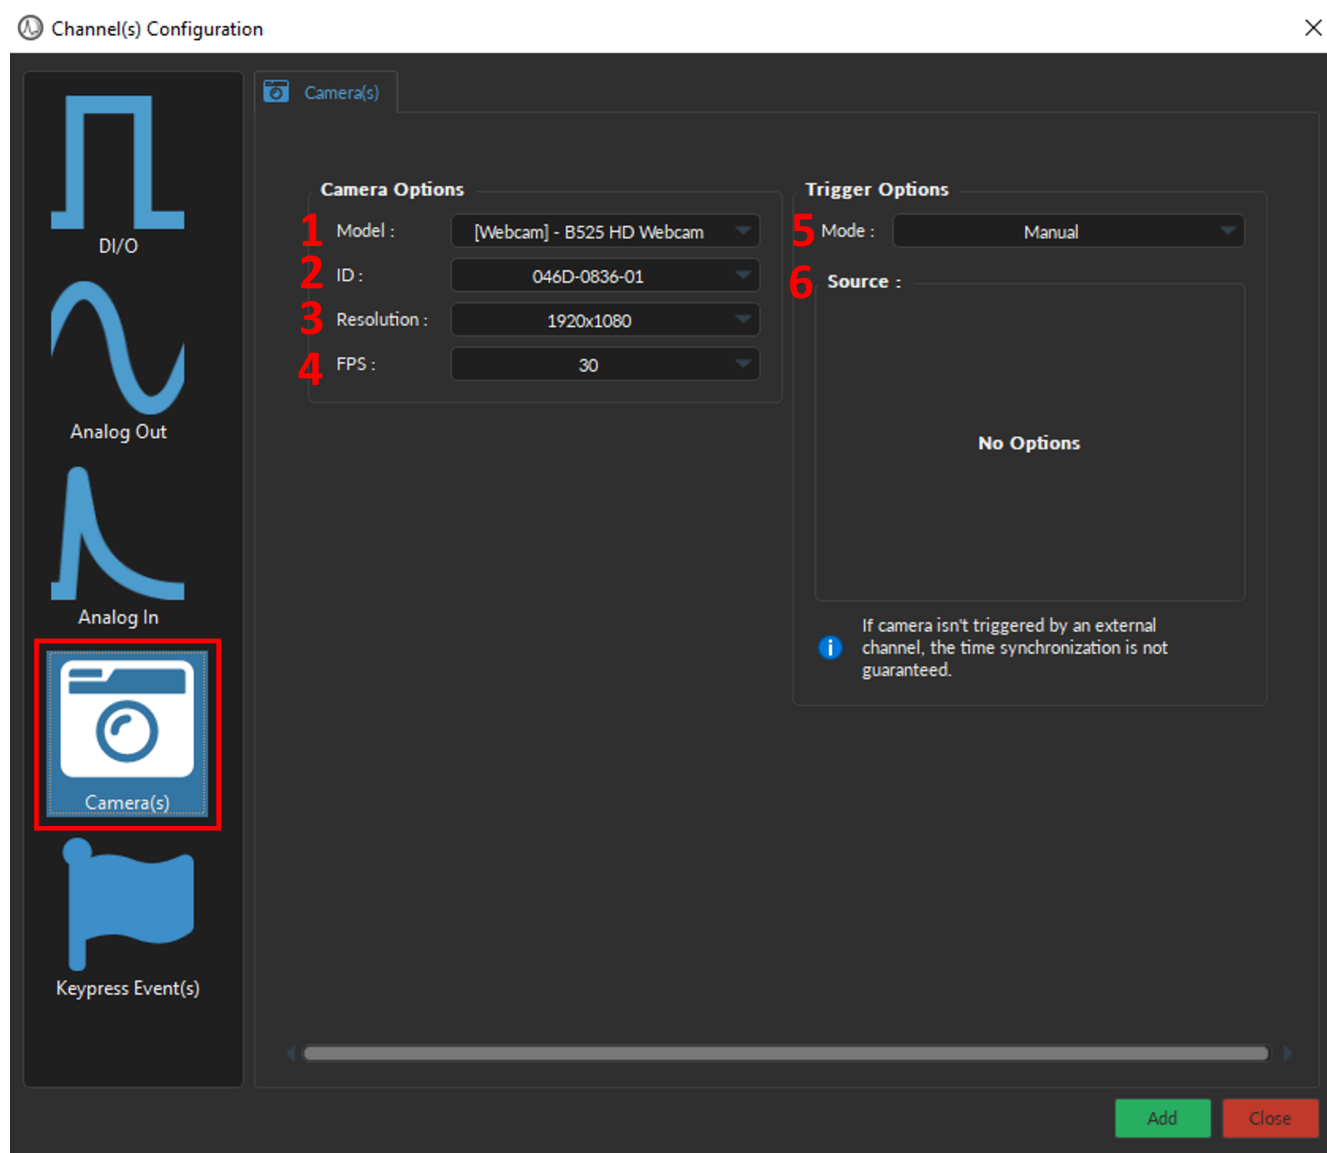

Figure 5.37: Channel(s) configuration window, Camera
1. The **Model** (Fig. 5.37, 1) allows you to select the camera of choice based on the type of camera.
2. **ID** drop-down list (Fig. 5.37, 2) is used to select a camera based on its unique ID. The ID is particularly useful if multiple cameras of the same model are required for the experiment.
3. The **Image Size** (Fig. 5.37, 3) is used to set the resolution of the image. The larger the number of pixels used for width x height, the better the resolution. Currently, image size can range between 160x120 to 1920x1080 pixels.
4. The **FPS** (Fig. 5.37, 4) is used to specify the frame rate of the camera (i.e. the number of images displayed per second). FPS can be any value between from 5-30 for web cameras and up to 60 FPS for the *Doric Behavior Camera*.
5. The **Mode** (Fig. 5.37, 5) sets the type of trigger that will control the camera. Depending on the type of camera, at most three modes are available:
6. The **Source** (Fig. 5.37, 6 & Fig. 5.39) is only used for the **External (Preconfigured)** mode, and displays the **Digital I/O** channel with the preconfigured parameters that will be created at the same time as the **Camera Channel** (Fig. 5.39). For detailed description of each Digital I/O parameter see the corresponding section in the Fiber Photometry System Manual. Briefly, key parameters include: